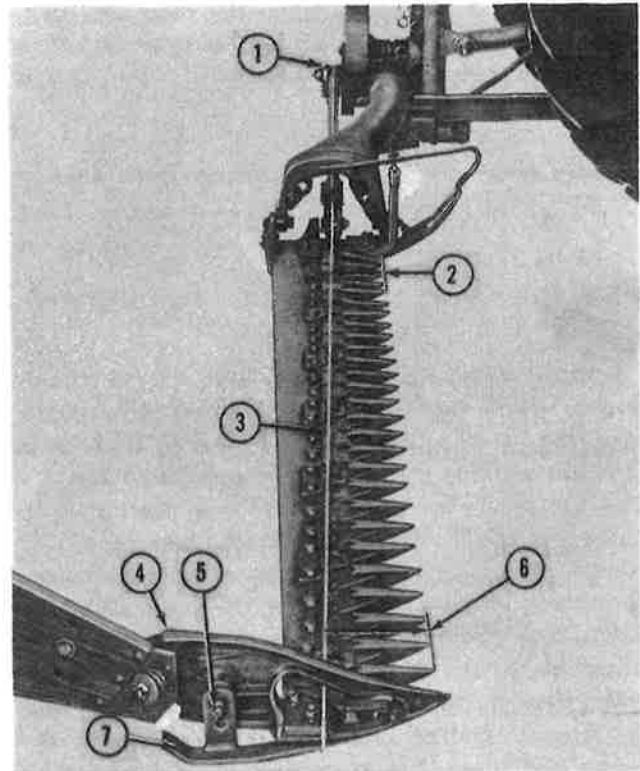

Figure 10
To check the mower for lead, the mower must be mounted on the tractor and the cutter bar lowered as shown in Figure 10. Tie a strong cord (3), Figure 10, around the Pitman box assembly (1) so it is centered on the Pitman arm and stretch it in a line parallel to the Pitman arm to the outer end of the cutter bar as shown. Measure the distance between the string and the tip of the guards near the inner shoe as shown at (2), and compare it with the distance between the string and the tip of the guards at the outer shoe as shown at (6). The difference represents the amount of lead in the cutter bar which should be about 1/4 inch per foot of cutter bar length.
To adjust the outer sole (4), Figure 10, remove the bolt (5), raise or lower the sole to the desired position on the shoe (7), replace the bolt (5), and secure with the lock washer and nut as shown.